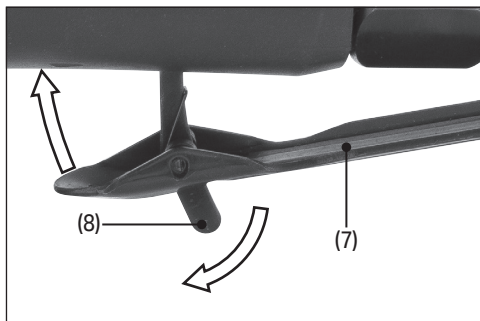

Fig. 6
7.1 ON/OFF Trigger – Fig.6
- Push the trigger safety lever (8) forward to release. This then allows the trigger (7) to be pushed towards the body of the grinder.